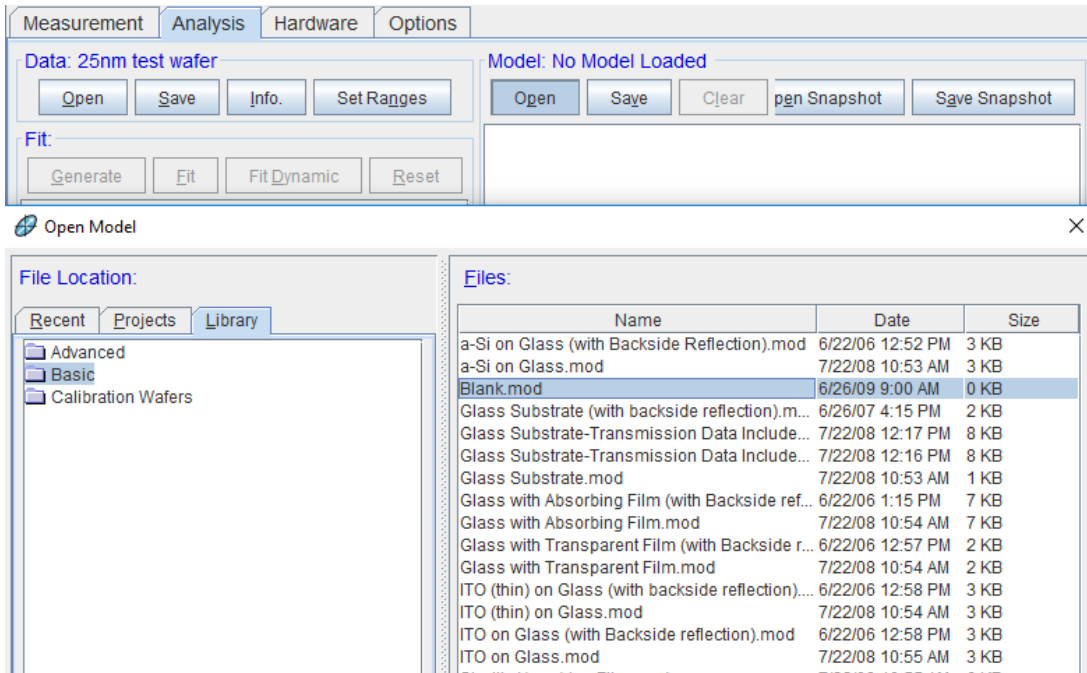

Figure 4: for step 8.1
- 8.1) In Analysis tab, click ‘Open’ under ‘Model’. Select ‘Blank.mod’ in the Basic folder. (Figure 4)